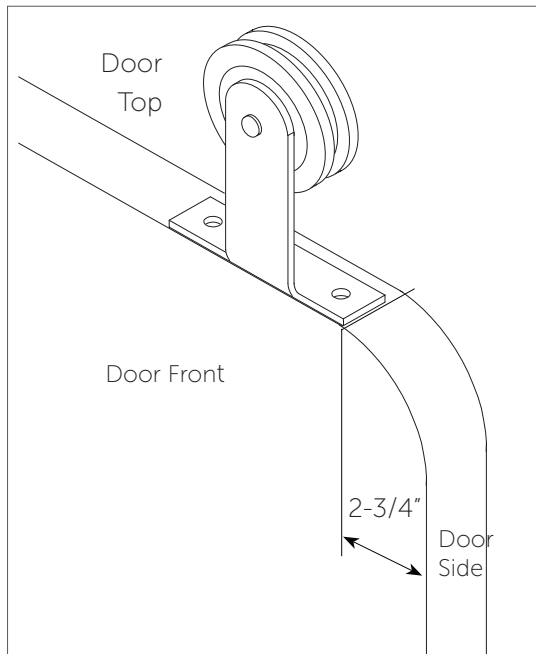

Figure 1
1. Place the hanger on the top surface of the door, 2-3/4" from the edge of the door side and flush with the door front. Ensure the front of the hanger and the front of the door are facing the same direction (Figure 1).